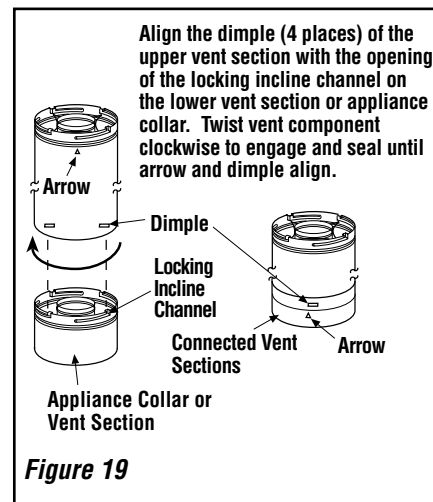

Figure 19
B. Attach vent components to appliance - **Secure Vent** SV4.5 direct-vent system components are unitized concentric pipe components featuring positive twist lock connections (see **Figure 19**).
To attach a vent component to the appliance collar, align the dimpled end over the collar, adjusting the radial alignment until the four locking dimples are aligned with the inlet of the four inclined channels on the collar (refer to **Figure 19**). Push the vent component against the collar until it fully engages, then twist the component clockwise, running the dimples down and along the incline channels until they seat at the end of the channels. The unitized design of the **Secure Vent™** components will engage and seal both the inner and outer pipe without the need for sealant or screws. If desired, a #6 x 1/2" screw may be used at the joint, but is not required as the pipe will securely lock when twisted.
Push the vent component against the previous section until it fully engages, then twist the component clockwise running the dimples down and along the incline channels until they seat at the end of the channels. **This seating position is indicated by the alignment of the arrow and dimple as shown in Figure 19.**
Secure Vent SV4.5 direct-vent system components are unitized concentric pipe components featuring positive twist lock connection, (refer to **Figure 19** on **Page 14**). All of the appliances covered in this document are fitted with collars having locking inclined channels. The dimpled end of the vent components fit over the appliance collar to create the positive twist lock connection.
D. Attach vent components to appliance - To attach a vent component to the appliance collar, align the dimpled end over the collar, adjusting the radial alignment until the four locking dimples are aligned with the inlets of the four incline channels on the collar (see Figure 19 on Page 14).
Push the vent component against the previous section until it fully engages, then twist the component clockwise running the dimples down and along the incline channels until they seat at the end of the channels. **This seating position is indicated by the alignment of the arrow and dimple as shown in Figure 19 on Page 14.**
The elbows feature a twist section to allow them to be routed about the center axis of their initial collar section to align with the required direction of the next vent run element. **Twist elbow sections in a clockwise direction only so as to avoid the possibility of unlocking any of the previously connected vent sections (see Figure 19 on Page 14).**